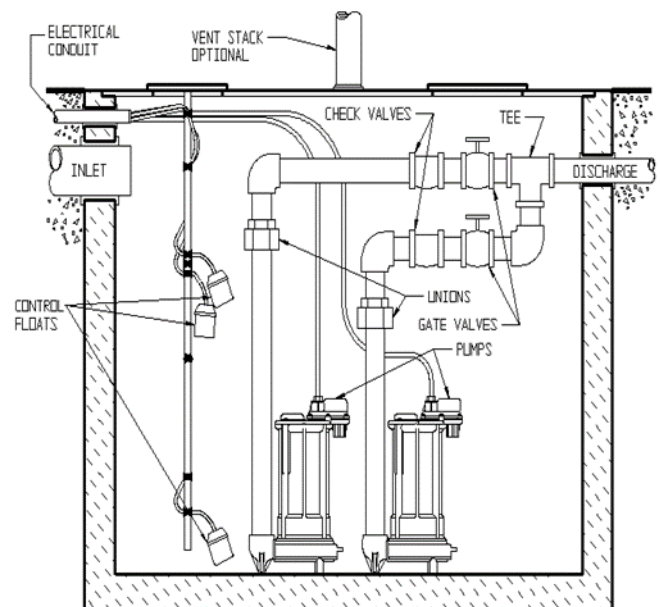

Fig. 3 – Typical Installation Duplex System
- B. **Duplex (Two Pump) Systems (see Fig. 3):** Set both pumps in place in the bottom of the basin. The duplex control used will include 3 or 4 floats that will either be tethered to one of the discharge pipes or to an independent rod or bracket. Follow the instructions provided with your duplex control device. Each float must be free to move throughout its travel and not contacting the pump body, piping, or other objects. Connect an individual discharge pipe to each pump.